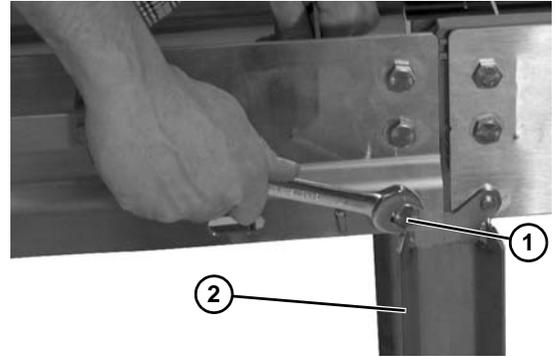

Figure 50
3. Remove hex head bolt (**Figure 50, item 1**) holding straight section frame to conveyor stand (**Figure 50, item 2**). Repeat on opposite side.